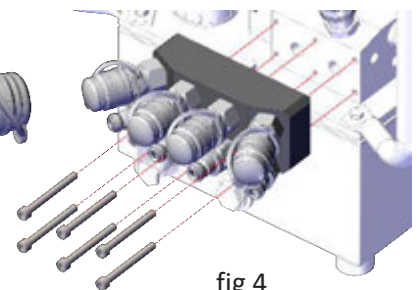

fig 4
5. Mount manifold assembly to Valve Block, using 6 socket head cap bolts. (fig 4)